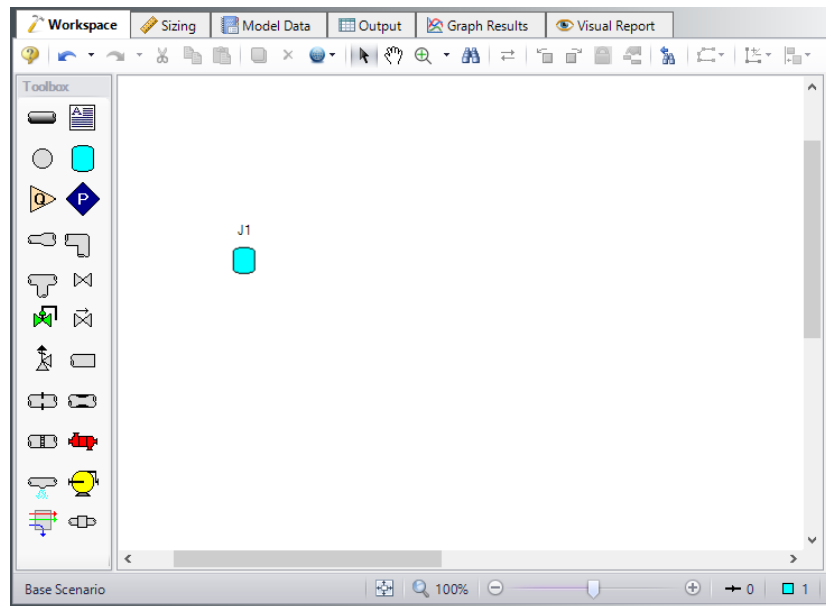

Figure 2.4a Walk through model with first junction placed
- **To start, drag a Tank junction** from the Toolbox and drop it on the Workspace. Figure 2.4a shows the Workspace with one tank.